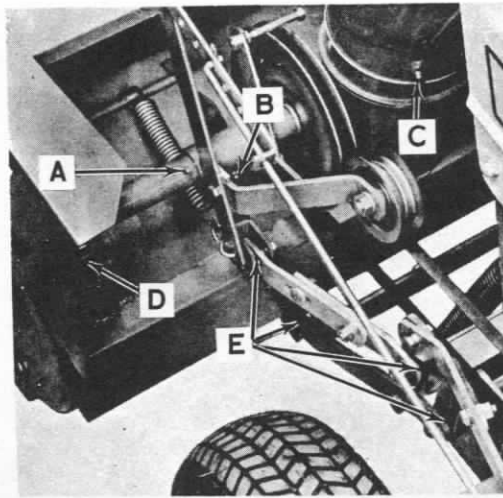

Figure 9
Lubrication (See Figure 9)
D. Auger drive chain: Lubricate chain every 40 operating hours with Case heavy duty Chain and Cable Lubricant (Figure 9) available through your Case Compact Tractor dealer. It is important that oil reaches inside each roller. Wipe off excess oil from chain.
E. Pivot and friction points: To maintain smooth and free operation, apply a few drops of No. 30 oil as required to all pivot and friction points. (Figure 9 shows a few points to be lubricated.)